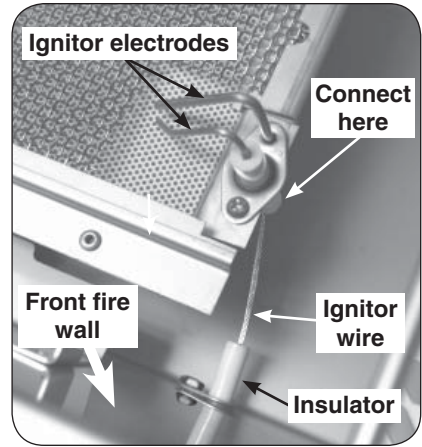

Fig. 4-1 Connect wire to electrode assy.
5. Connect the non-insulated metal end of the ignitor wire to the bottom of the ignitor electrode assembly at the forward right of the infrared burner (see Fig. 4-1).